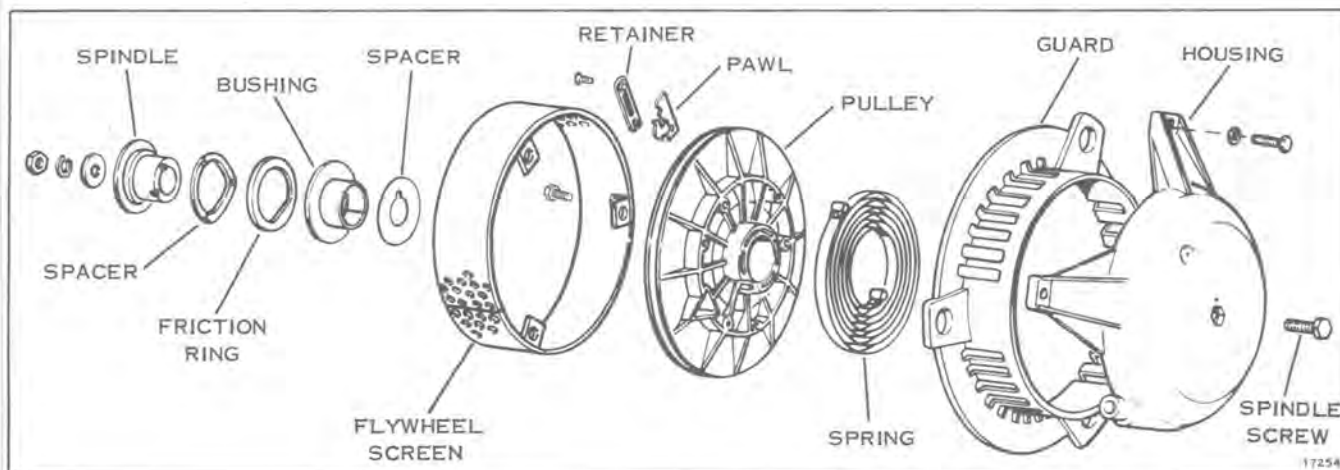

Figure 8-2
- Remove spindle screw, and remove all components of starter pulley spindle assembly (see Figure 8-2).